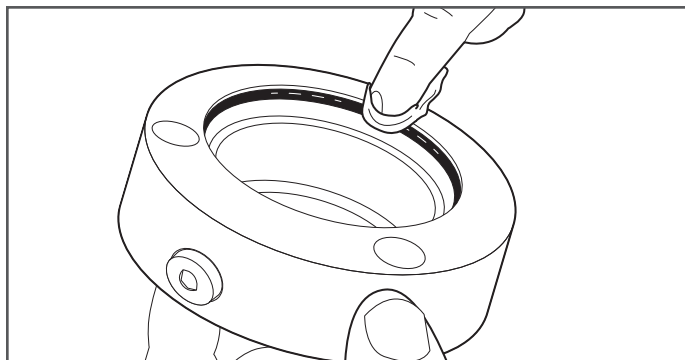

Figure 9-8
8. Reinstall inner O-ring. Apply an ample amount of clean bearing grease or lithium grease to inner O-ring (Figure 9-8).